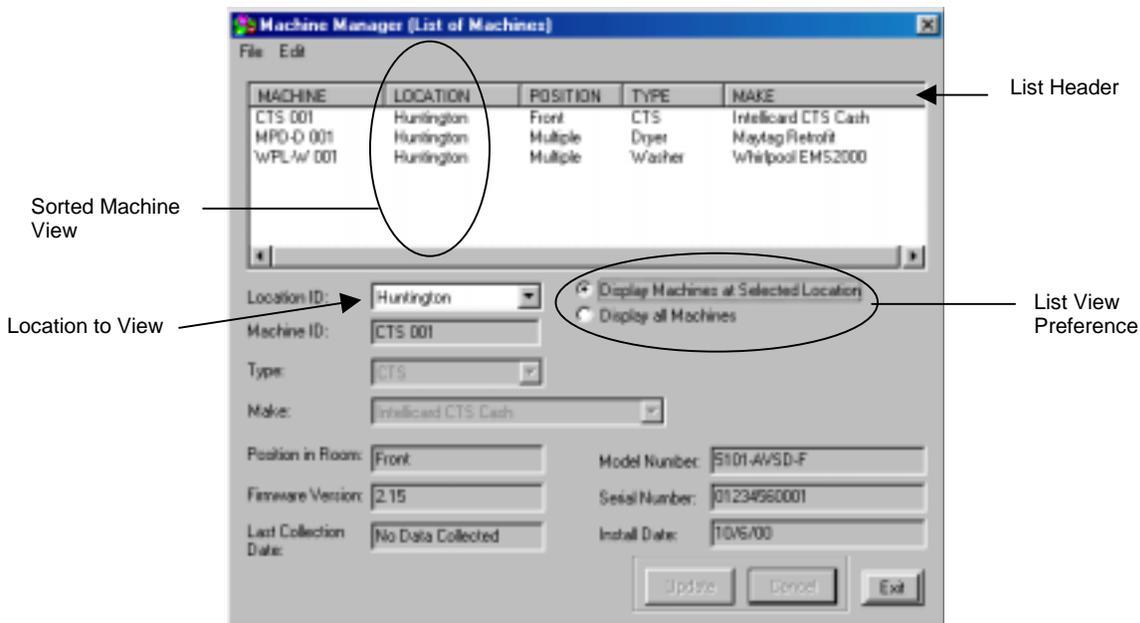

Figure 7.10 Viewing Machines by Location
3. Select a sorting preference by clicking the appropriate check-box (Figure 7.10):